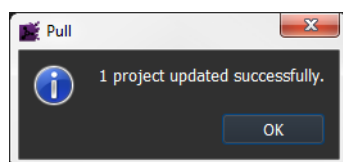

Fig. 9-27: Pull Message
- 5 When the pull is complete a 'pulled successfully' message is shown. See Figure 9-27.